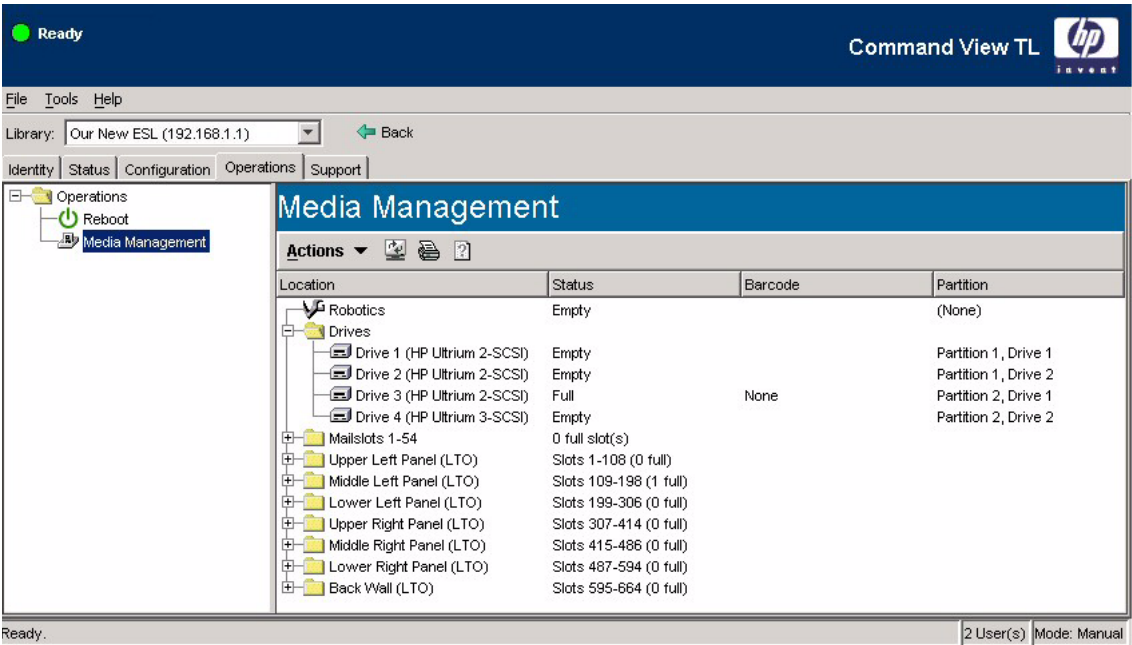

Figure 11 Media Management window
- Partition column—Displayed only if the library has been partitioned. The column indicates which partition the corresponding drive, slot, or mailslot has been assigned to, and its position in the partition. For example, in Figure 11, drive five is shown as being the first drive in partition one.